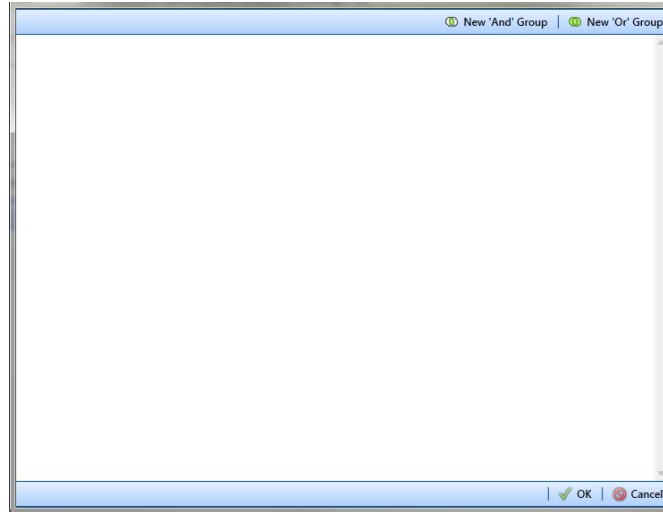

Figure 9-16. Edit Filter
- 8 If you want to set up one or more filters that apply to *all* data items in the definition file, click  **Edit** in the *Filters* group box to open the *Edit Filter* dialog box (Figure 9-16).